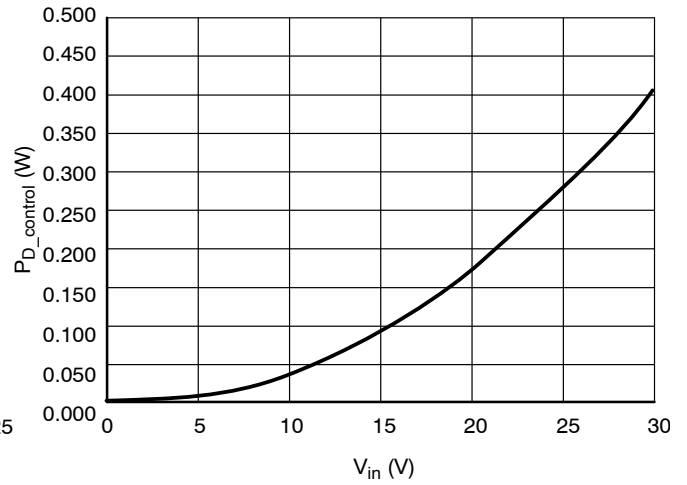

Figure 4. Internal Circuit Power Dissipation vs. Input Voltage
7. Establish Power Dissipation on the NUD4001 device's control circuit per Figure 4:
A $P_{D_control} =$ Figure 4, for 12 V input voltage